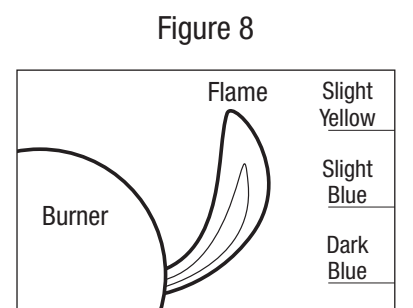

Figure 8
7. After lighting, observe the burner flame. Make sure all burner ports are lit and flame height matches illustration (Figure 8).